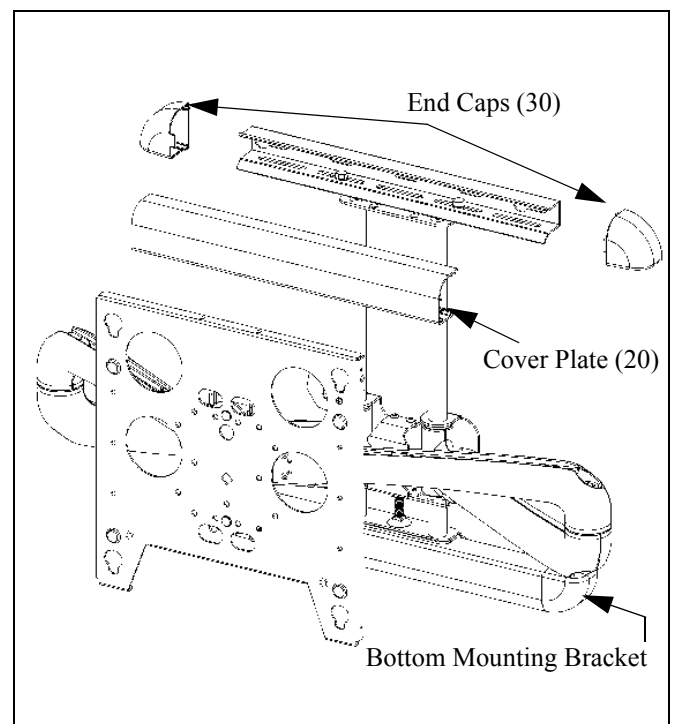

Figure 5: Install Cover Plates and End Caps
1. Install cover plate (20) over the top bracket. (See figure 5)
2. Install end cap (30) on the cover plate (20). (See figure 5)
3. Repeat steps 1 and 2 for the bottom mounting bracket. (See figure 5)